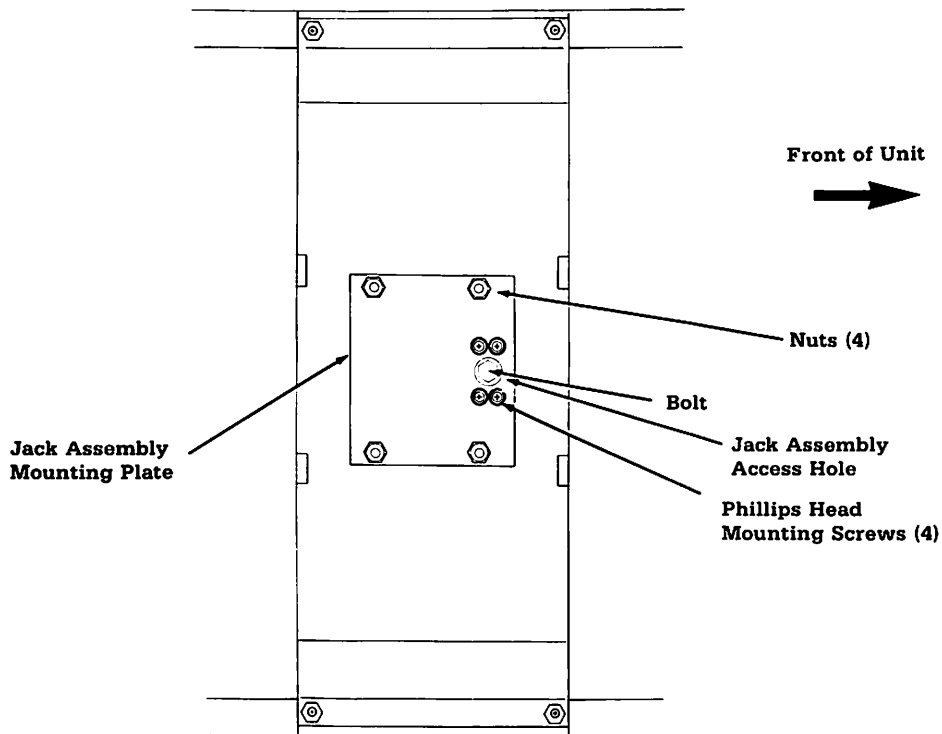

Figure 5-15. Bottom View of 5000 Infant Warmer (laying on its right hand side).
(See Figures 5-15, 16, 17 and 18)
6. Insert a 1/2 inch, socket wrench through the access hole in the bottom mounting plate and remove the lower mounting bolt (5/16-18). See Figure 5-15.
7. Use a 1/2 inch wrench to remove the four(4) 5/16-18 hex nuts and external lock washers from the assembly base plate. DO NOT REMOVE THE FOUR PHILLIPS HEAD SCREWS.